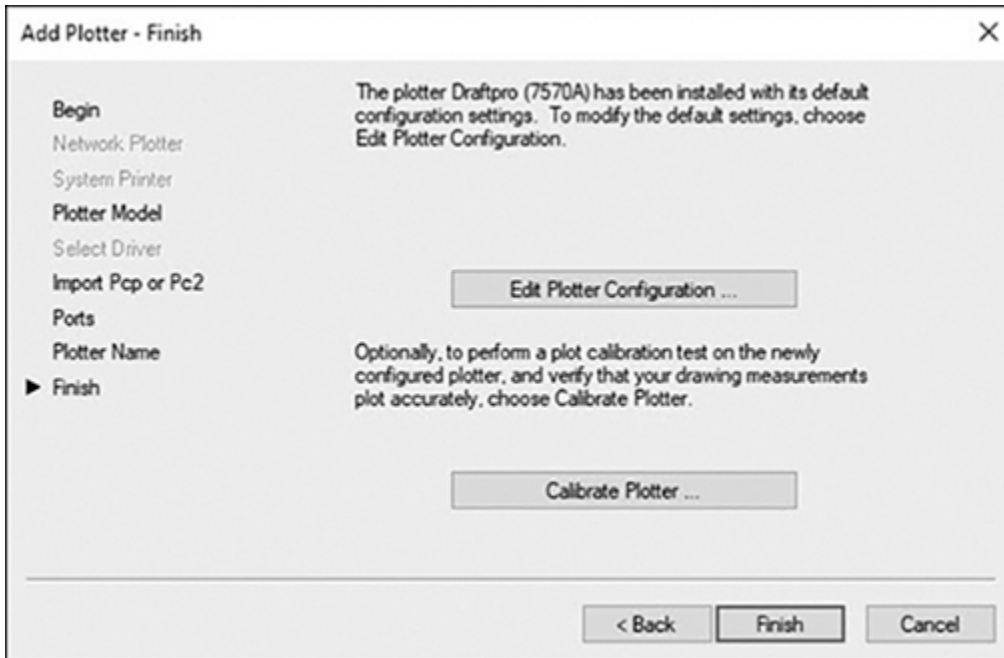

Figure 15-30
- 9** At this point, you can modify the plotter defaults by choosing the **Edit Plotter Configuration...** button (see Figure 15-30). The **Calibrate Plotter...** button allows you to verify the accuracy of the plotter output by creating a sample plot, measuring the output, and inputting the measured results back into the plotter calibration. Choose **Finish** to complete the plotter configuration.